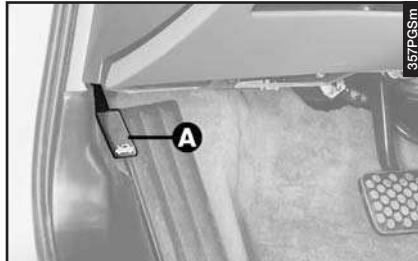

fig. 141
- Pull the lever (A-fig. 141) until the bonnet clicks open.